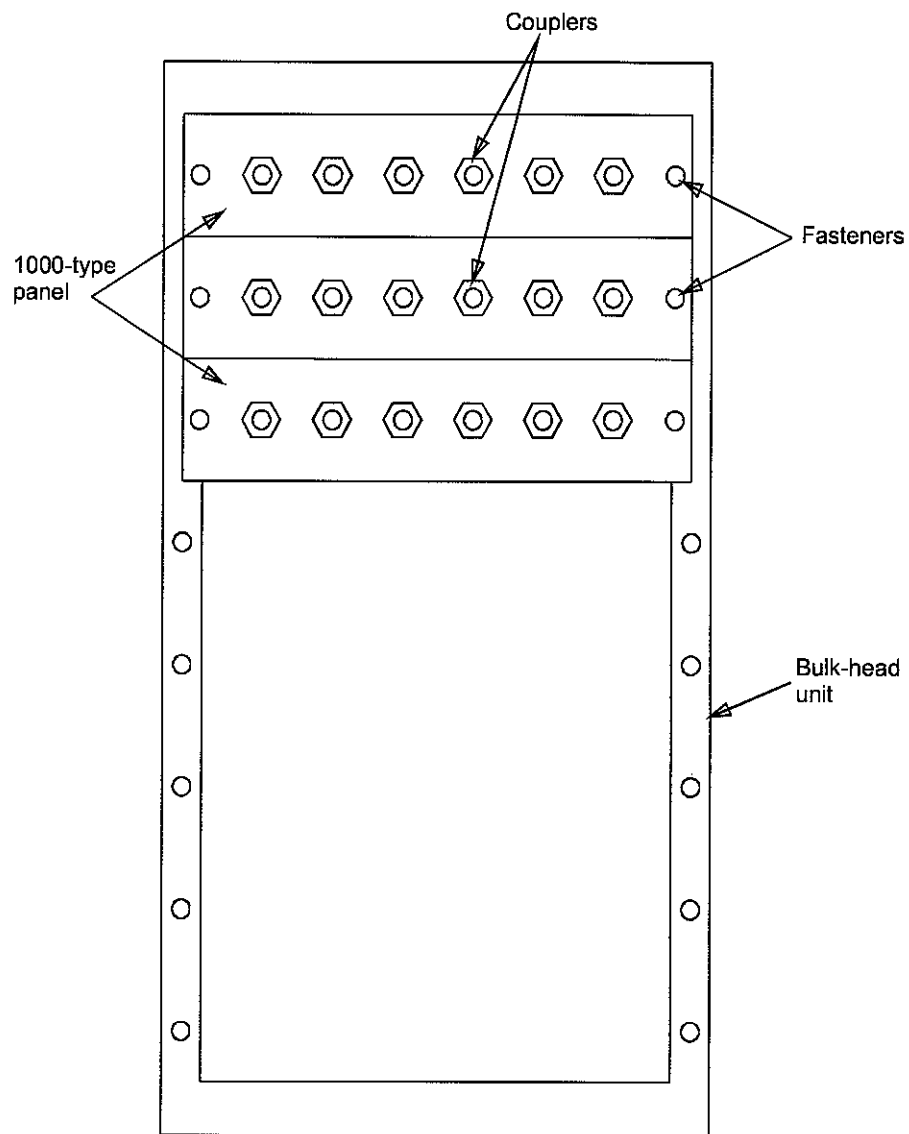

Figure 7—Bulk-Head Unit
9. When the couplers have been installed, position and secure the panels onto the 400A bulk-head unit (Figure 7).